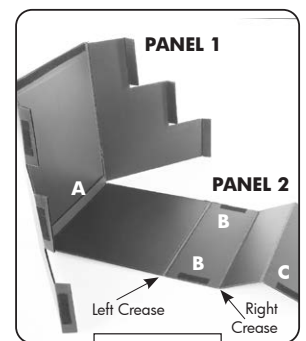

Figure 5
- 5** Next, stand **PANEL 1** into the upright position as shown in **Figure 5**. On **PANEL 2**, identify both the far left crease and the right crease on section B. **See Figure 5**.